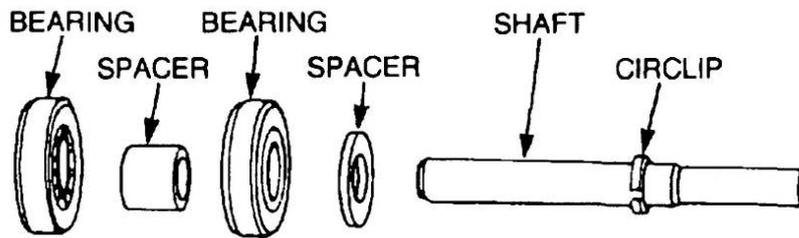

Figure 63 Removal of the Bearings and Spacers
- h. Press the bearings and spacers from the shaft; do not remove the circlip (Figure 63) unless it is damaged.
- b. Pack the bearings with grease, in the sequence shown (Figure 63) fit the spacers and bearings to the shaft, use a suitable press for the bearings.